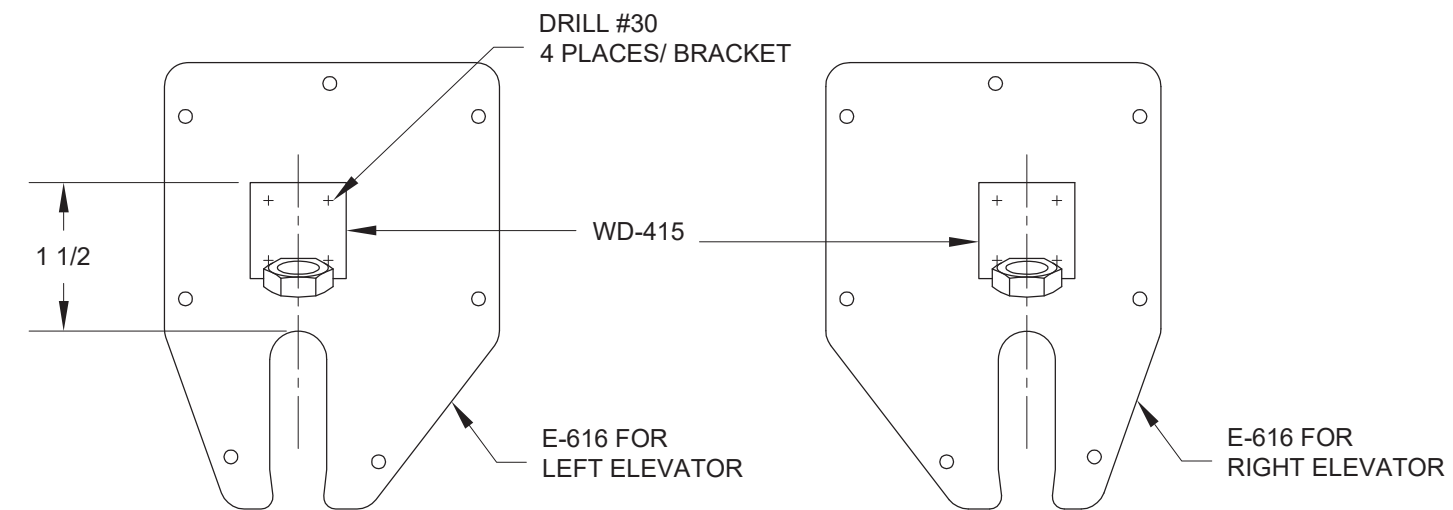

FIGURE 3: LOCATING AND DRILLING THE TRIM CABLE ANCHOR BRACKETS
Step 4: Position the WD-415 Trim Cable Anchor Brackets on the two E-616 Cover Plates as shown in Figure 3. The brackets are located on opposite sides of the cover plates for the left and right elevators.